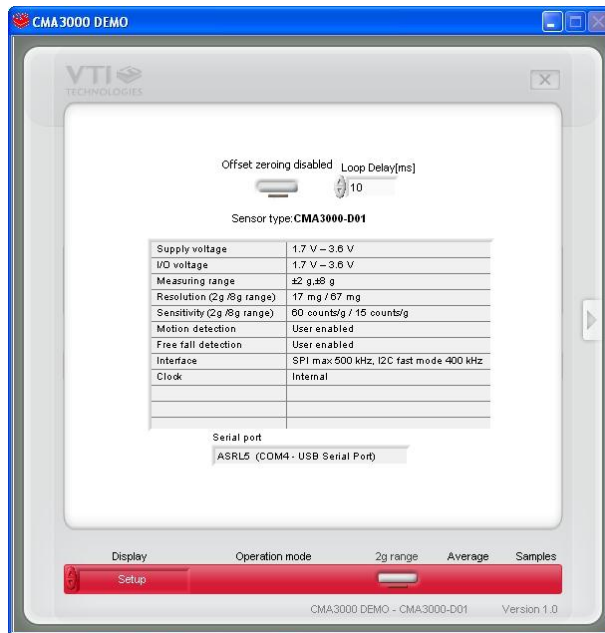

Figure 10. Setup display.
2. Open GUI software to see the correct COM port number (SETUP display, see Figure 10). Windows Device Manager can be also used to find out the COM port number.